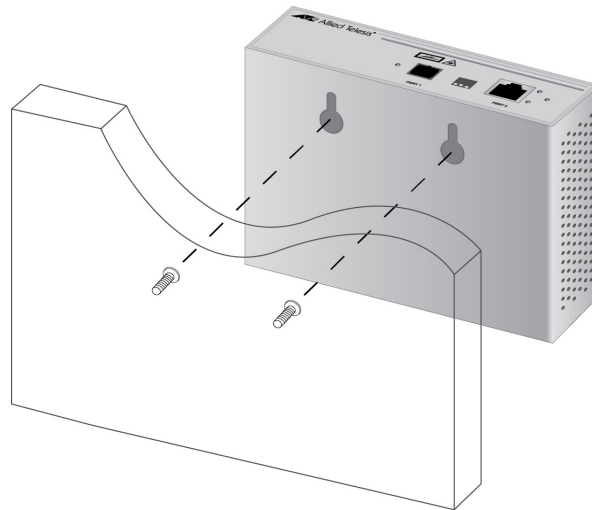

Figure 19. Positioning the Media Converter on the Wall Screws
2. Install the clip on the AC power connector on the back panel of the media converter. With the “u” of the clip facing down, press the sides of the clip toward the center and insert the short ends into the holes in the retaining bracket, as shown in Figure 19.